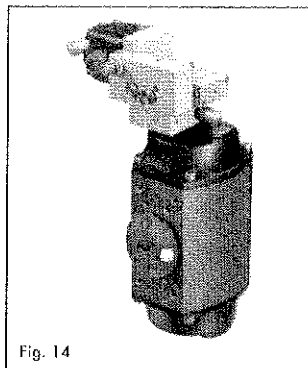

Fig. 14
- Attachment to single-acting on-off rotary actuators with NAMUR interface (see Fig. 14)